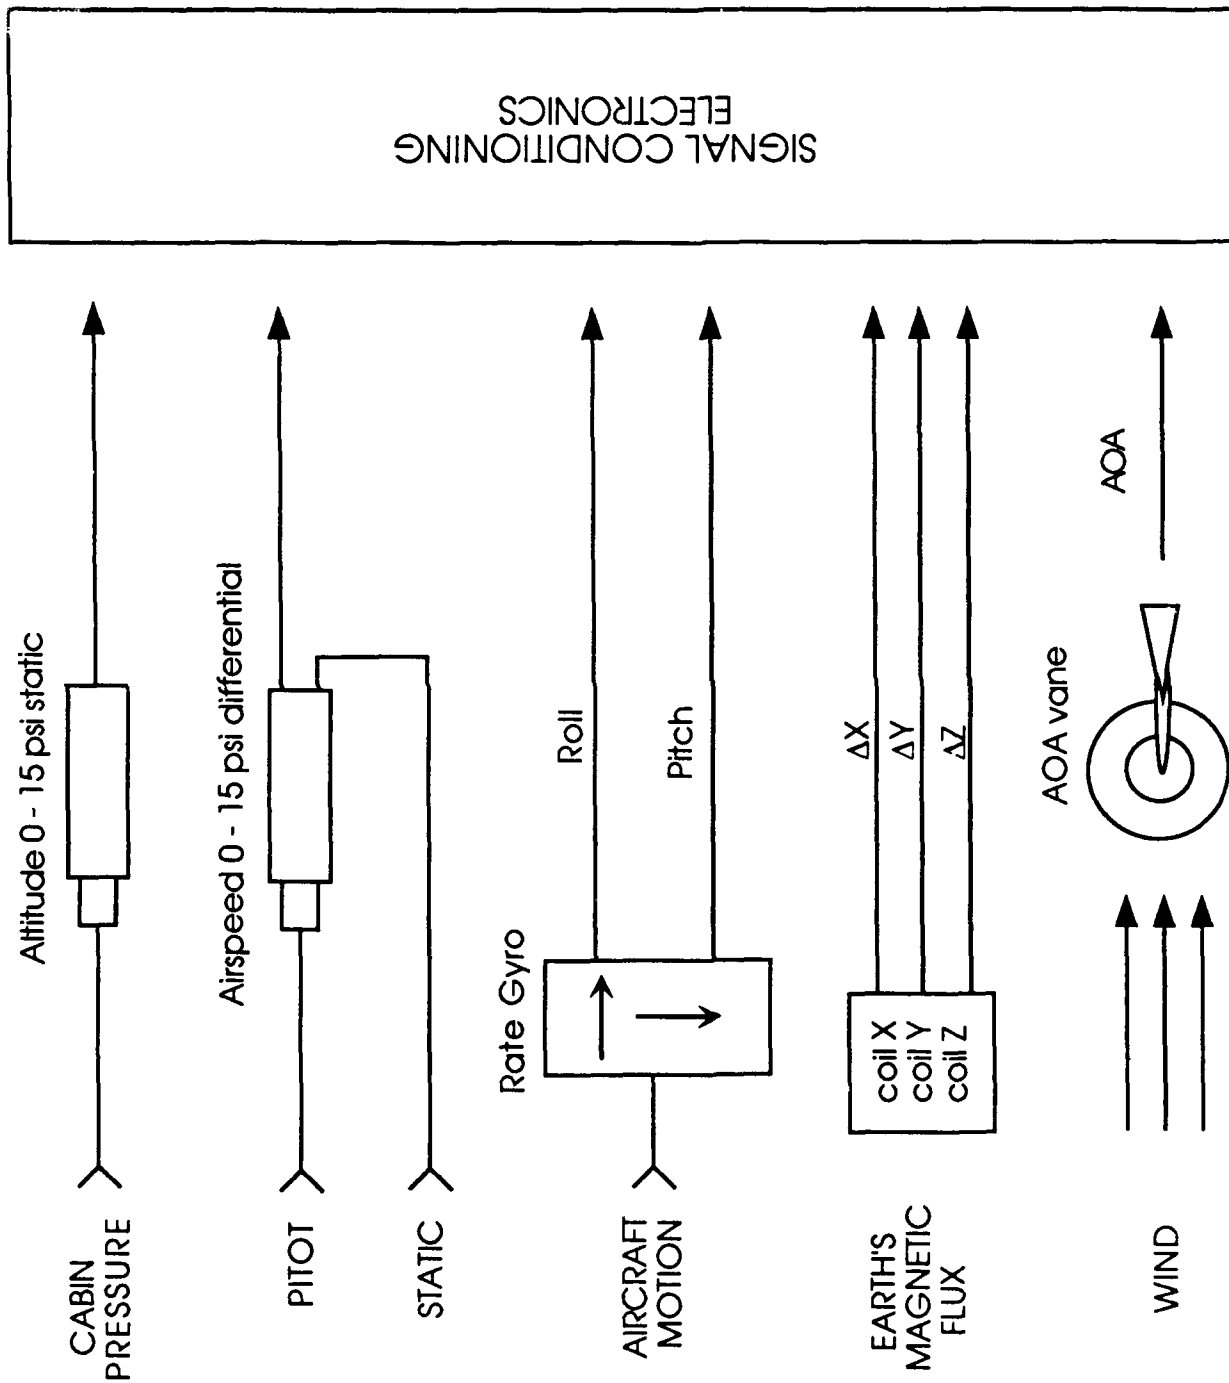

FIGURE 2 - SENSORS
- Figure 2 - Sensors
FIP sensors provide a conversion of physical parameters to an electrical signal that can then be interpreted by the FIP computer system. (Figure 2: Sensors). The FIP uses a total of five sensors in order to provide this capability. Each is listed and described below.